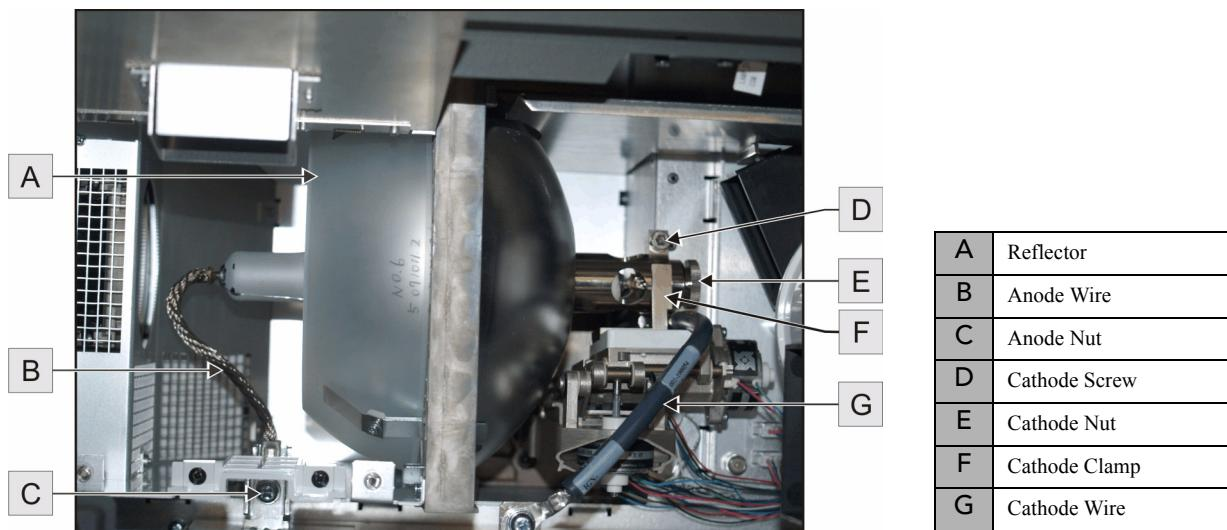

FIGURE 4-1 LAMP ASSEMBLY
5. Using a #3 Phillips™, loosen the nut securing the anode wire (**Figure 4-1, C**). Loosen the cathode screw (**Figure 4-1, D**) using the hex key, provided on the rear access door. Holding the lamp from the anode end, carefully unscrew and remove the cathode nut (**Figure 4-1, E**).
10. Thread on and hand-tighten the cathode nut. Ensure the smooth portion of the nut is against the cathode clamp (Figure 4-1/F). Tighten the cathode screw (Figure 4-1, D) onto the cathode end of the lamp, using the hex key, provided on the rear access door.
11. Align the ring terminal on the anode wire (Figure 4-1, B) with the mounting position (Figure 4-1, C), ensuring the crimped side of the wire is facing out. Tighten the anode screw. **NOTE: Route anode lead away from nearby metal surfaces.**